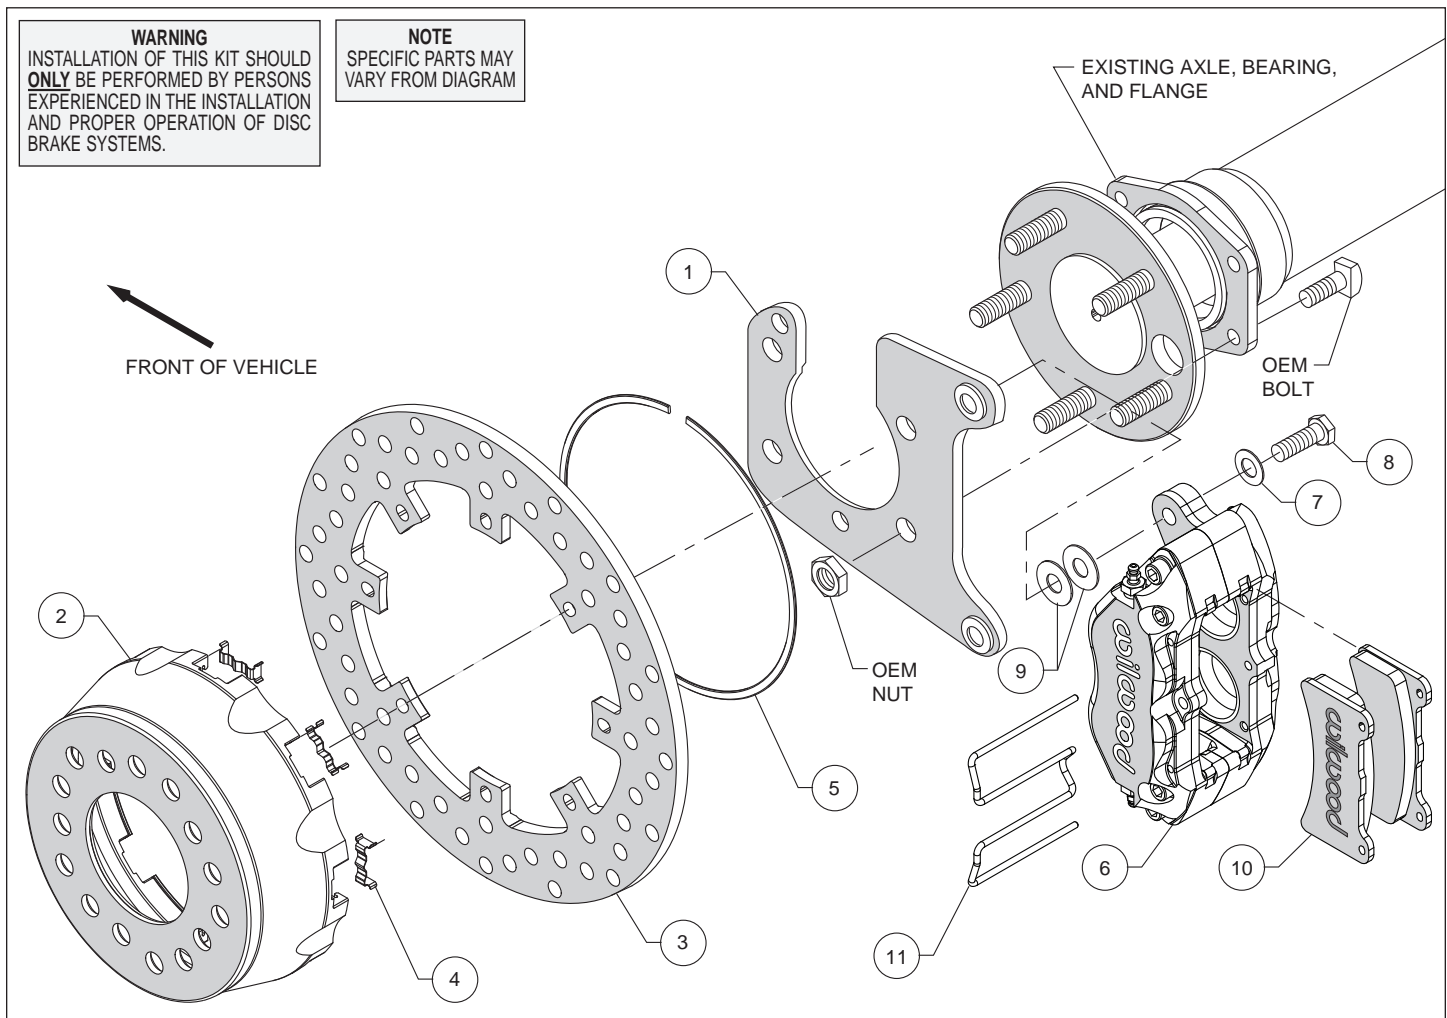

Figure 1. Typical Installation Configuration
Assembly Instructions (numbers in parenthesis refer to the parts list and Figure 1 on the preceding pages): **CAUTION:** All mounting bolts must fully engage clinch nuts. Be sure to check that all bolts are either flush or protruding through flanged side of clinch nut after shimming, Figure 5.
- Install the caliper mounting bracket (1), with the slot for the axle pointing upward, to the housing flange using the OEM bolts and nuts, as shown in Figure 1 and Photo 1. Ensure that the heads of the clinch nuts are facing outboard, Photo 1. Apply red *Loctite*® 271 to the OEM bolt threads and torque to OEM specifications.
- Insert the dynamic mount wear plates (4) into the slots in the hat (2) making sure the tabs snap in place, Photo 2. Orient the rotor (3) as shown in Figure 1 and Photo 3, with the flush mount tab side facing the hat. Attach the rotor to the hat using snap ring (5) by pushing down on the rotor and installing the ring into the groove in the hat, as shown in Photo 4. Ensure that the ring is fully engaged in the groove.
- Align the correct hole pattern in the hat (2) with the axle stud pattern and slide the hat/rotor assembly onto the axle hub. **NOTE:** The hat must fit flush against the axle flange or excessive rotor run out may result. Install three lug nuts (finger tight) to keep the hat/rotor in place while continuing with the installation. **NOTE:** Some OEM and aftermarket axles come with stud sizes larger than 0.50" diameter. Verify stud size, and if necessary, have a qualified machine shop drill the hats to the correct size.
- **NOTE:** Please reference the caution statement at the beginning of the assembly instructions. Mount one caliper (6) onto the mounting bracket (1) using bolts (8) and washers (7), as shown in Figure 1. Initially place two .035" thick shims (9) on each bolt between the caliper and the bracket, Photo 5. Temporarily tighten the mounting bolts and view the rotor (3) through the top opening of caliper. The rotor should be centered in the caliper, Photo 6. If not, adjust the caliper by adding or subtracting shims between the bracket and the caliper. Always use the same amount of shims on each of the two mounting bolts. **NOTE:** The end of each bolt must be flush with or slightly protruding from the head of the clinch nut. If necessary, place spare shims between washer and caliper mounting ear to achieve the proper clinch nut engagement, as shown in Figure 5. Once the caliper alignment and clinch nut engagement are correct, remove the bolts one at a time, apply red *Loctite*® 271 to the threads, and torque to